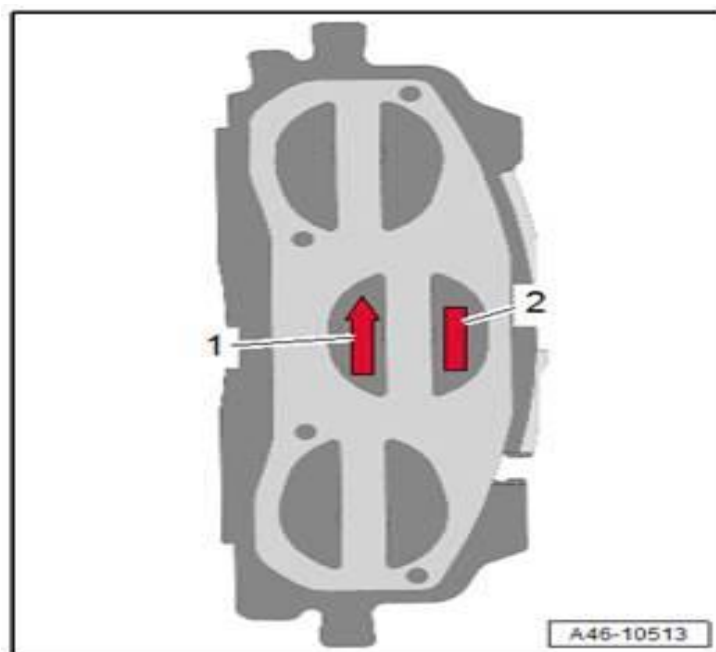

Figure 9. Correct installation position for the brake pad.
G. It is mandatory to pay attention to the labeling on the brake pad (Figure 9). Once installed the arrow (1) position on the backing plate must point upward (the pads should be installed with the arrows following the forward rotation of the wheel). Labeling (2) indicate correct assembly position (left outer/inner, and right outer/inner).